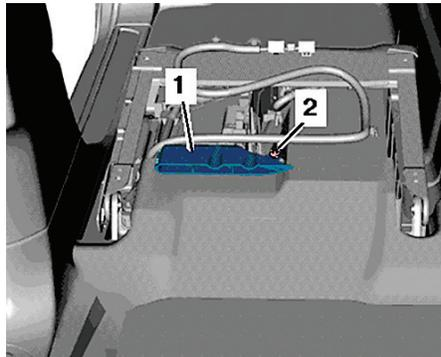

Fig. 1 Floor vent removal
5. **On all models**, remove screw (2) and pull up floor vent (1), **Fig. 1**.